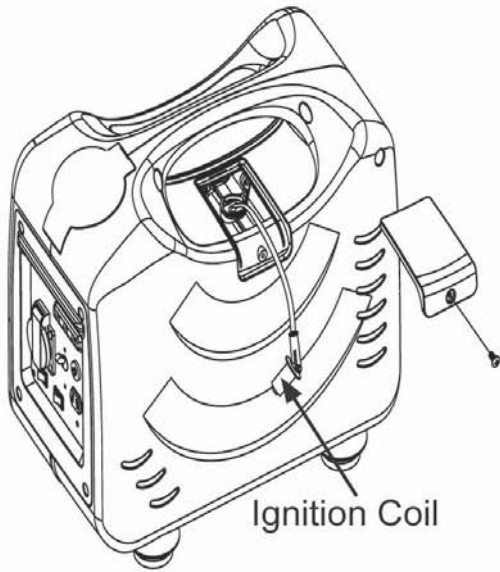

Fig. 5.7
2. Remove the ignition coil (Refer to Fig. 5.7 for HY1000Si and Fig.